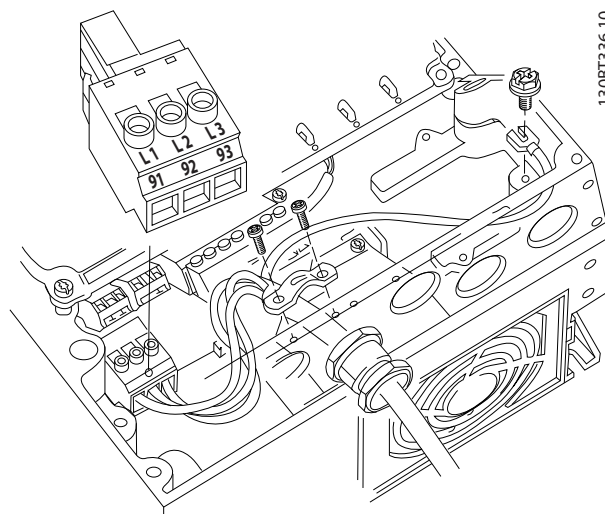

Figure 2.12 Connecting to AC Line Power
- Connect 3-phase AC input power wiring to terminals L1, L2, and L3 (see *Figure 2.12*).